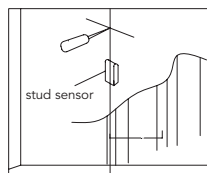
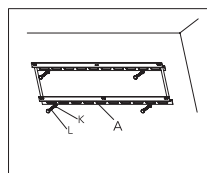

fig. 2.1
fig. 2.2
The wall plate (A) must be anchored to the two wood studs at a distance over 30.5cm (12"). Use a high quality wood stud finder, to locate two adjacent studs. We suggest using an awl, or thin nails, to confirm the location of the wood stud (as shown in fig. 2.1). Use a 7mm (5/16") drill bit and drill 88mm (3 1/2") deep holes in each of wood studs. Then use four 9mm (3/8") square head screw bolts (I) and four metal pads (H) and install the wall plate to the wall, please make sure the installation direction of the wall plate is correct (as shown in fig. 2.2).